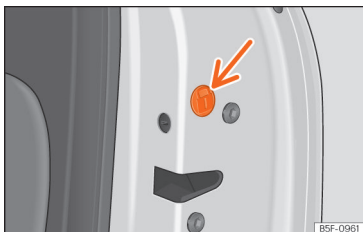

Fig. 76 Locking the door manually.
- If necessary, remove the rubber seal  from the front of the door »» **Fig. 76**.